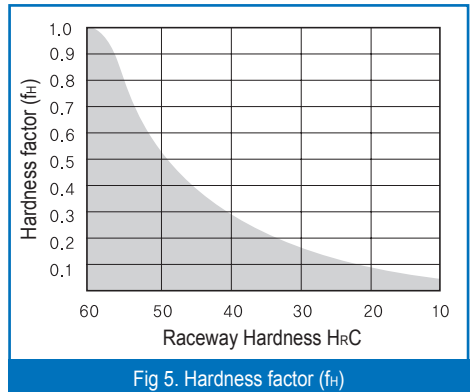

Fig 5. Hardness factor (f_H)
- C : Basic dynamic load rating (N)
- P : Applied load (N)
- f_H : Hardness factor (fig 5.)